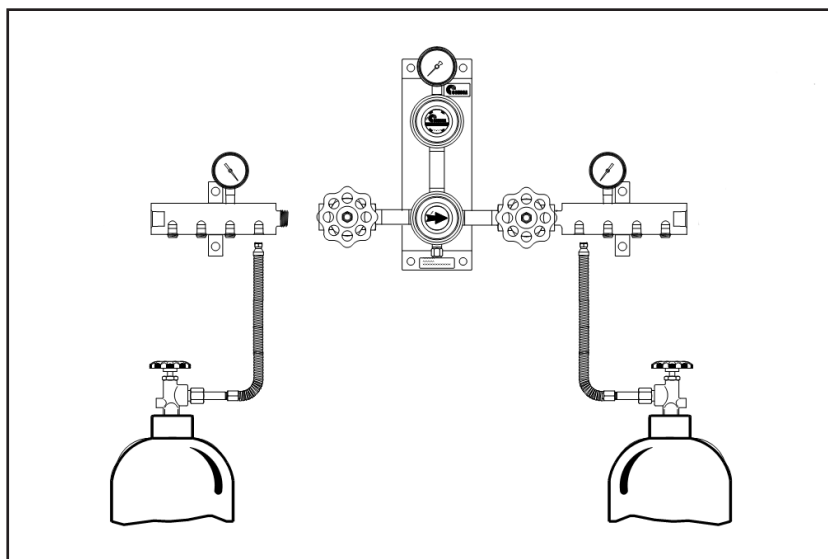

**Figure 4**
8. Secure the street elbow located on the master valve with a wrench while threading the taped male NPT end of the pigtail as illustrated in Figure 4.